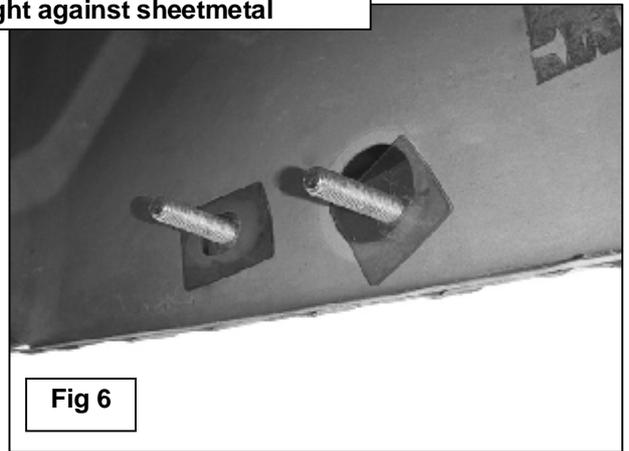

Fig 6
end of the Bolt Plate, (without plastic retainer), into the large round hole and back out the smaller round hole on the inside of the rocker panel. Continue to thread the Plastic Retainer down the Bolt Plate until it is flush with the sheetmetal. Thread (1) Plastic Retainer onto the remaining threaded end on the Bolt Plate, **(Figure 6)**. **IMPORTANT:** The Plastic Retainer is designed to prevent the Bolt Plate from falling into the body cavity and to aid in mounting the Bracket.